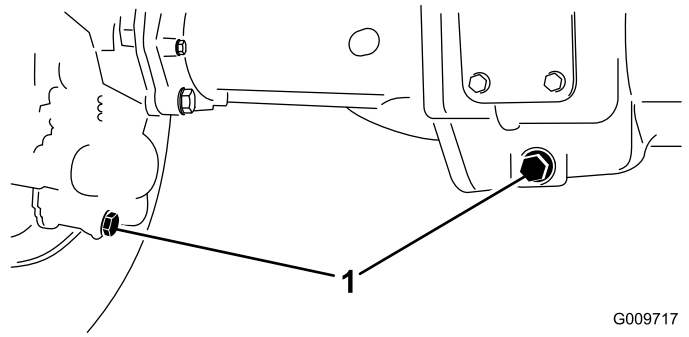

Figure 52
2. Clean the area around the 3 drain plugs—1 on each end and 1 in the center (Figure 52).